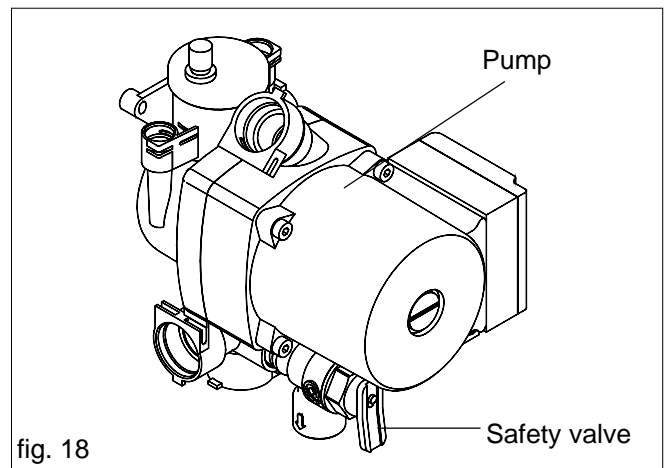

fig. 18
6.5 PUMP HEAD (see fig. 18)
6.6 SAFETY VALVE (see fig. 18)
6.7 AUTOMATIC AIR RELEASE VALVE (see fig. 18) (AAV)